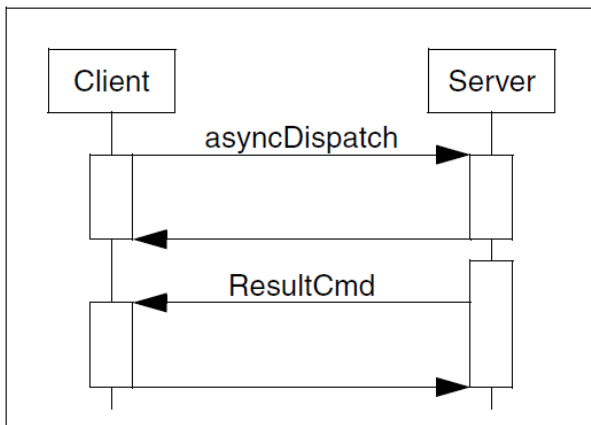

Figure 3.32: Asynchronous Command Execution
- `asyncDispatch` (see Figure 3.32 [▶ 714]) means the command will be sent to the selected server application and the control will immediately return to the sending application (in this case Cmd Sender). A result may be received if a Result Command and a Result Server have been selected in the Command Selection Section.